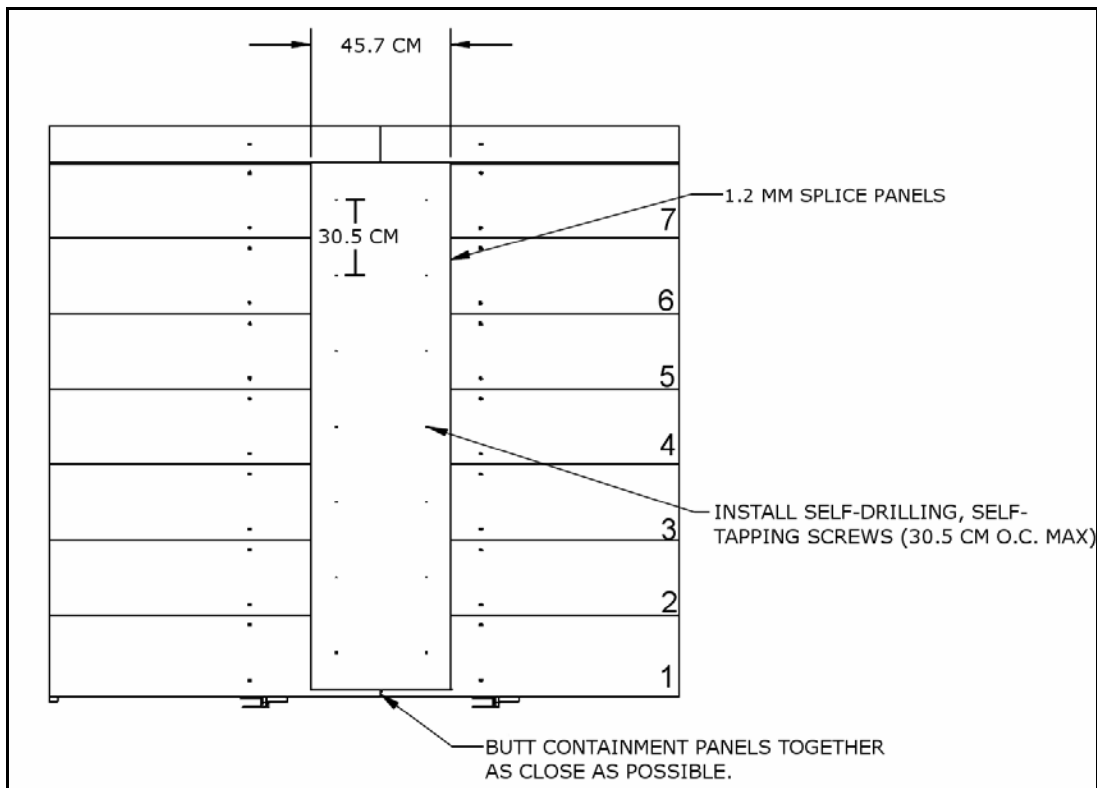

Figure 3.5 Splice Panel
1. Set all containment wall panels in place on the pad. Butt the wall panels together as close as possible. See Figure 3.5.
3. Center 45.7 cm wide x 1.2 mm splice panels over joints between containment wall panels, and attach to wall panels with 1.11 cm x 2.54 cm large self-drilling, self-tapping screws, 30.5 cm apart (maximum). See Figure 3.5.